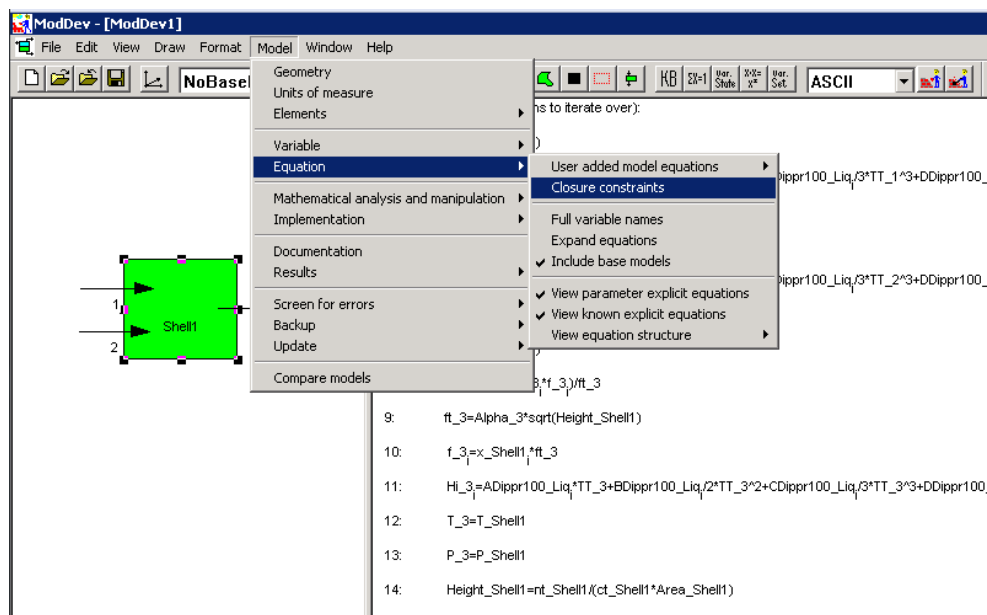
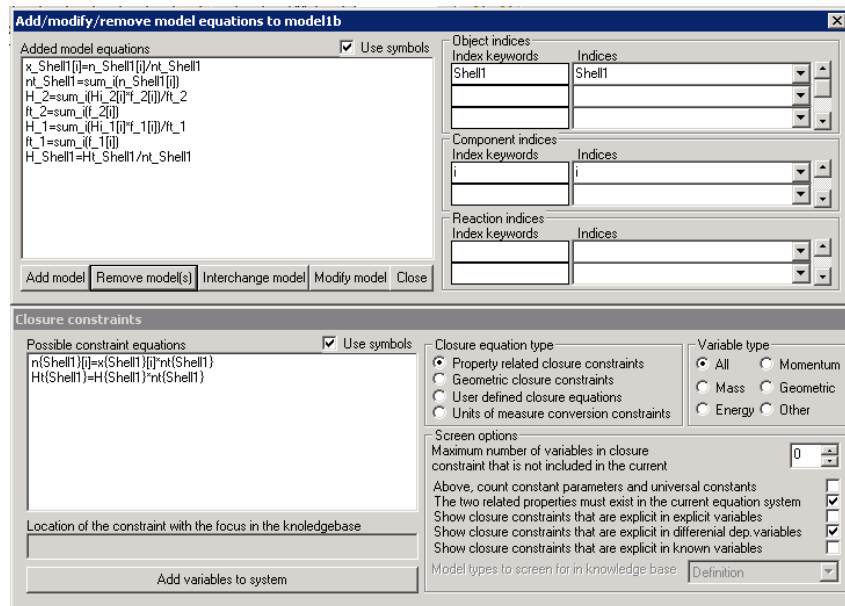

Figure 21: Selection of “closure equations” from tool-bar.
Figure 26: Addition and removal of closure equations.
Step3: Addition and deletion of “closure equations” – click on the shell and then select “model” in the tool-bar. From the “model” window items, select “closure equations” as shown in figure 21. From the “closure equations” tool, remove the Eq. A1 from the list of closure equations and add the following equations,
Step3: Addition and removal of closure equations – Highlight the shell and enter the “closure equations” tool as shown in figure 21. Add equation A4 and remove equation A5 as shown in figure 26.